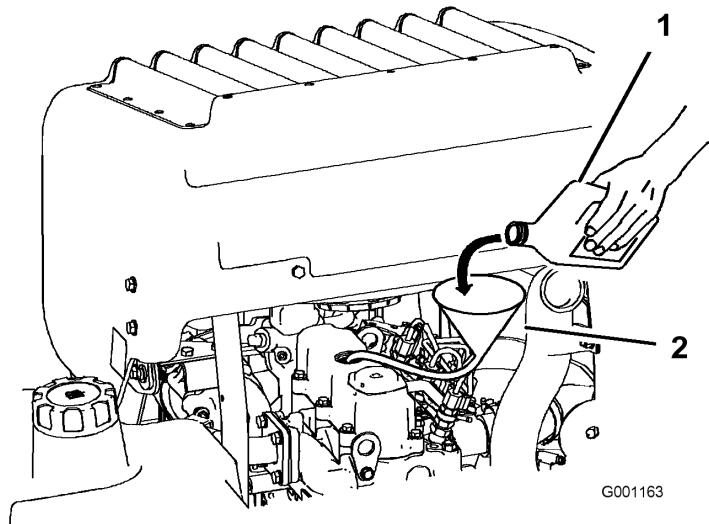

Figure 34
3. To add oil to the engine, locate and use a hose and funnel for adding oil (Figure 34).